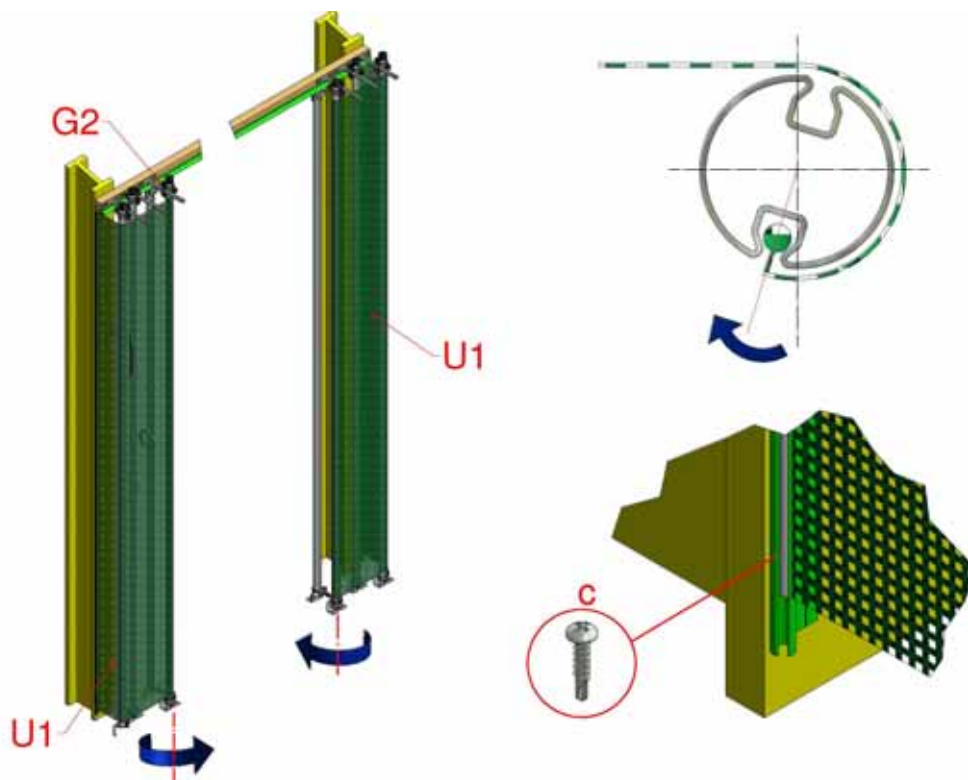

Figure 25, End Covers
4.16 Having finished the set up of the electric Motor, including the limit switches, the outer End Covers (U1) are to be installed, Figure 25. Fit the additional Control Tubes previously cut in Section 4.7 using Crossover Clamps (G2).